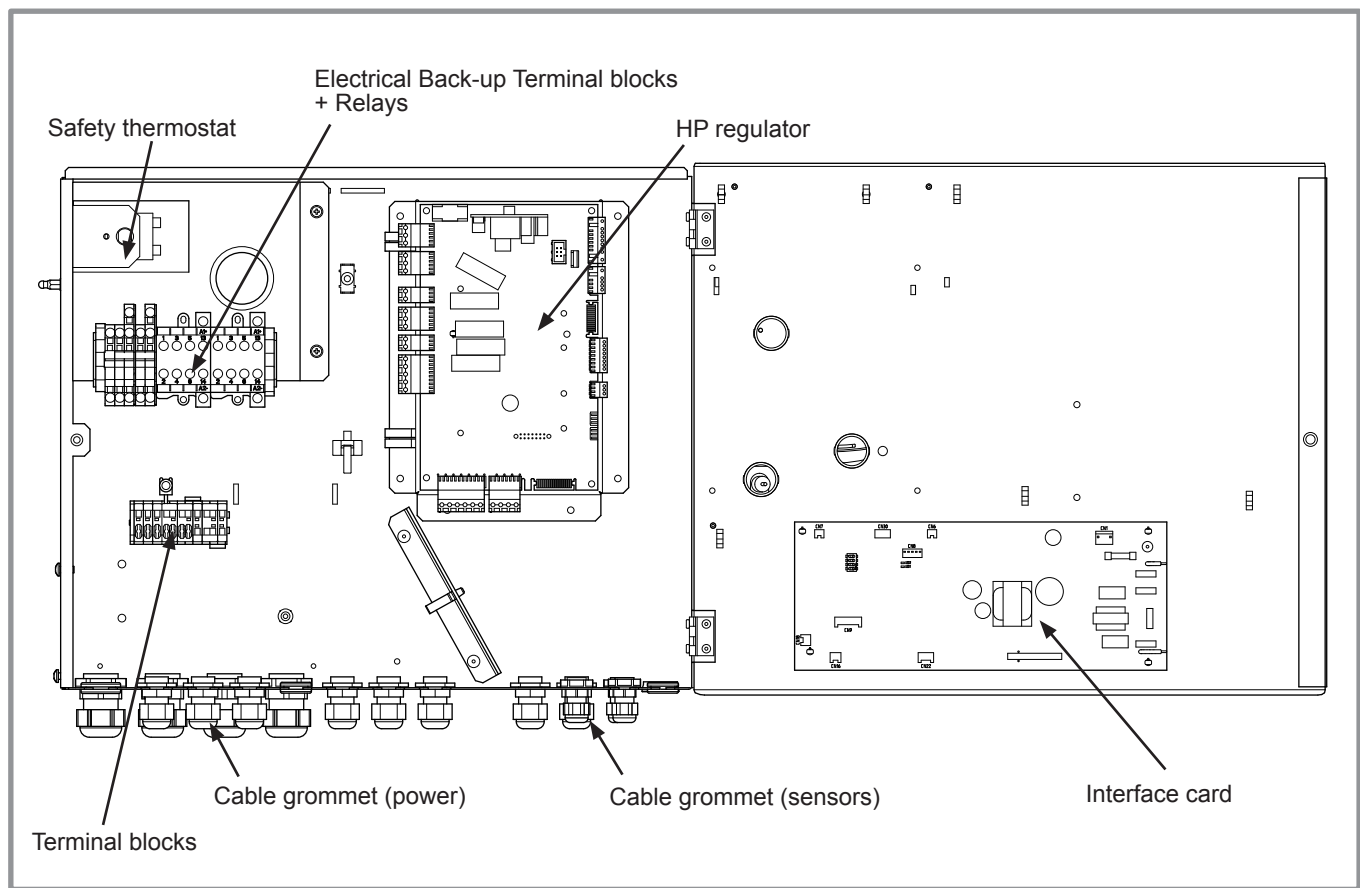

figure 28 - Access to hydraulic model electric box and description
- Make the connections in accordance with the diagram figure 28.